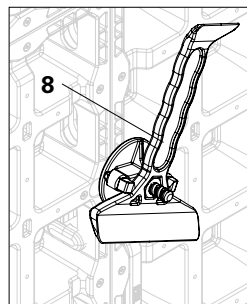

Fig. B9.02c
5. Position the DUO 62 compensation waler (**25**) on the DUO corner tie (**23.2**), and tighten with the wingnut counterplate (**54**) by hand or using the DUO cleaning device (**8**). (Fig. B9.02c)